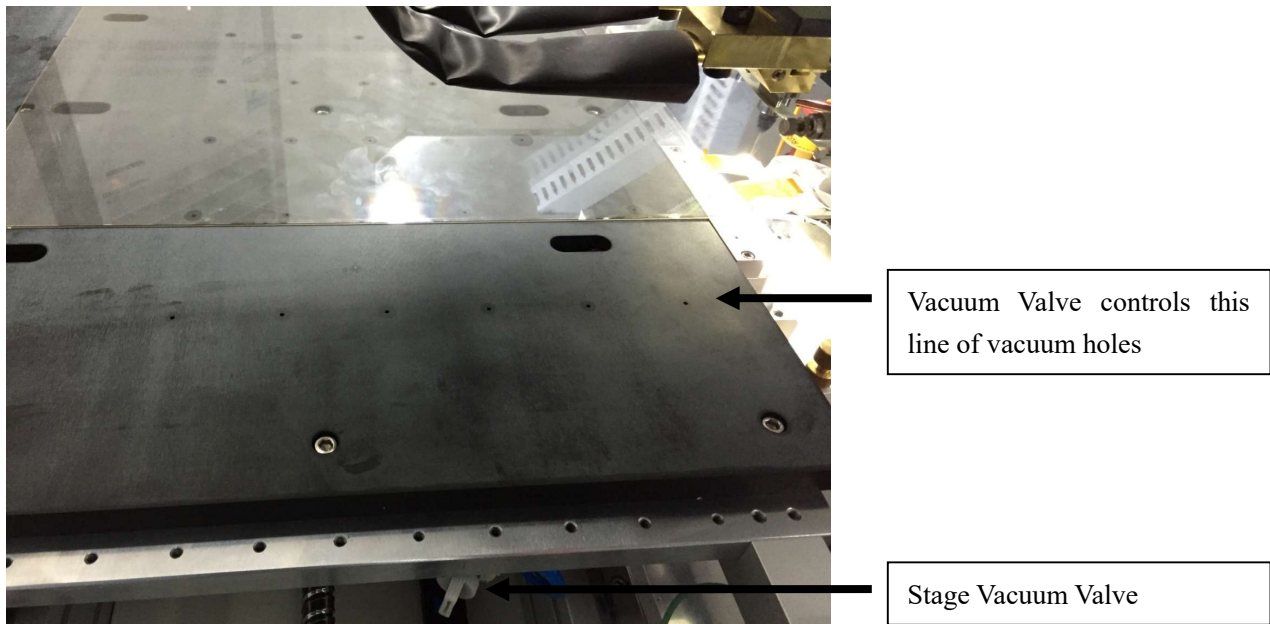

Figure 2.5
4.3 There is one stage vacuum valve located under the stage (see figure 2.5) that controls the amount of vacuum sent to the leftmost line of stage vacuum holes.